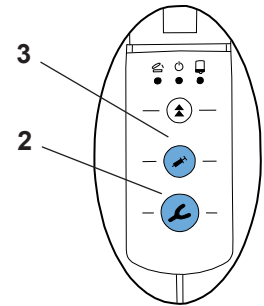

Fig. 8
- If a button is pressed, such as extrude (impression material (2, Fig. 8) or dispense (3, Fig. 8), without having previously selected a programme, the device will automatically activate the ST programme. The LED next to the ST key goes on.
- ⇒ Press and hold down the advance key (2) or (3) (depending on the desired speed or function):
- Impression tray (2), fast extrusion speed